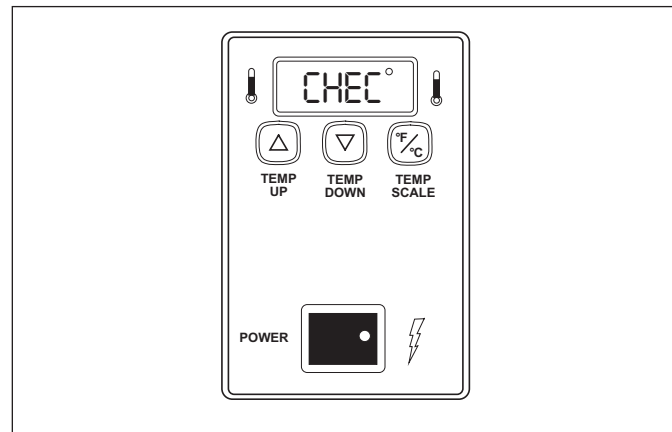

Figure 6. “CHEC” Fault Message
2. Press and hold the **TEMP UP** and **TEMP SCALE** buttons for over 1 second until the display flashes the setpoint temperature (Figure 6), then release.
“CHEC” will flash (Figure 6) when the control compartment ambient temperature is excessive: 140°F (60°C) to 180°F (82°C). All heaters will shut off.